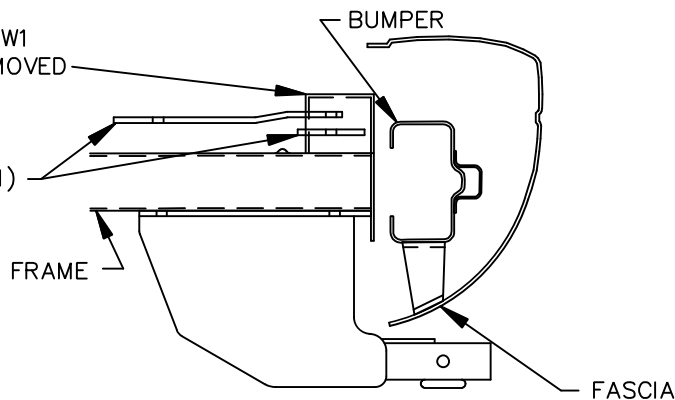

FIGURE 1
4. POSITION HITCH AS FAR REARWARD AS POSSIBLE ON THE INBOARD SIDE OF EACH FRAME, SEE FIGURE 1.
7. ON PASSENGER'S SIDE, POSITION REINFORCEMENT PLATE (1097-041) AND BLOCK (1097-007), AS SHOWN IN FIGURE 1, OVER DRILLED HOLE. THE REINFORCEMENT PLATE AND BLOCK SHOULD LINE UP WITH THE EDGE OF THE TRUNK PAN.